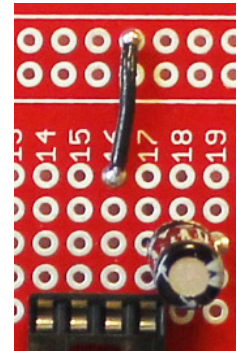

Figure 13
13. Prepare a short solid black wire (22 AWG) and solder one end to hole j16 and the other end to a nearby top negative power bus hole (see Figure 13).